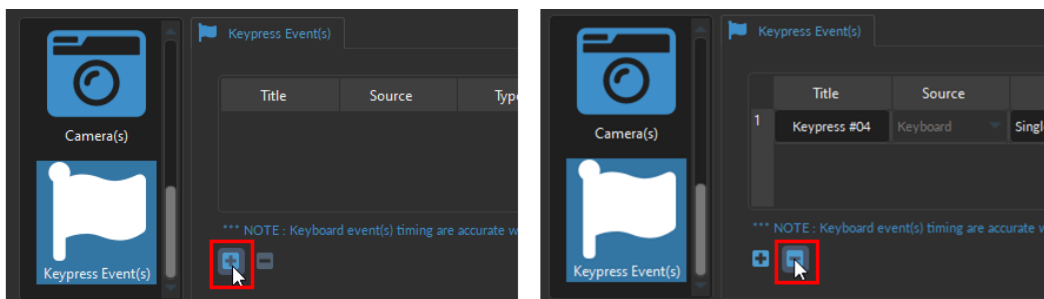

Figure 9.46: Adding and Removing Keypress Events
To add a new **KeyPress Event**, select the + sign at the bottom of the window (Fig. 9.46, left). To remove a Keypress, use - button (Fig. 9.46, right).
- **NOTE:** Selecting the + button (without clicking the *Add* button or the *Close* of the *Channel Configuration* window) will **automatically** add the Keypress Event channel at the **bottom** of the Acquisition View window, below any pre-existing channels (Fig.9.46).